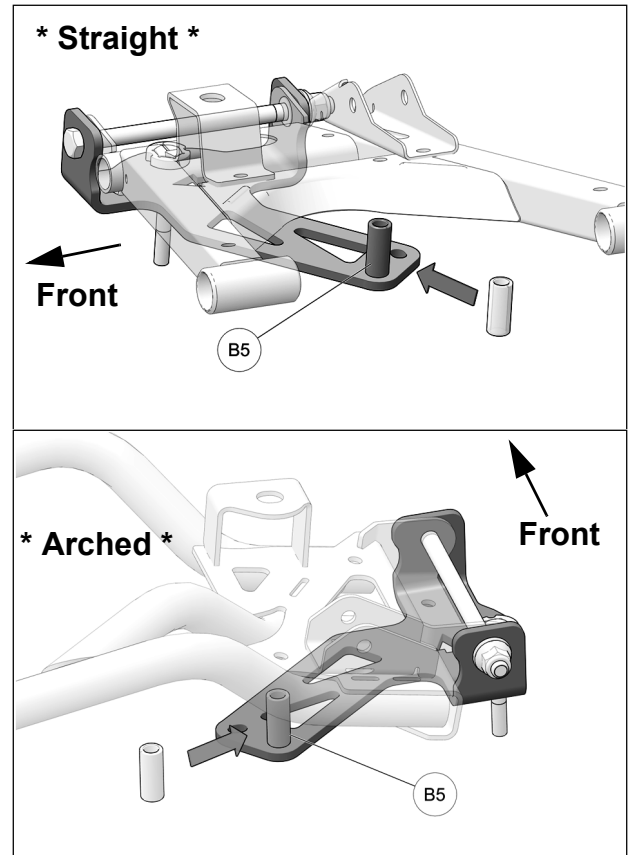

Fig. 9
8. Position spacer bushing (B5) between anchor bracket and lower suspension arm. Align bushing with one of the two holes at the back of the bracket and existing hole in suspension arm. See Fig. 9